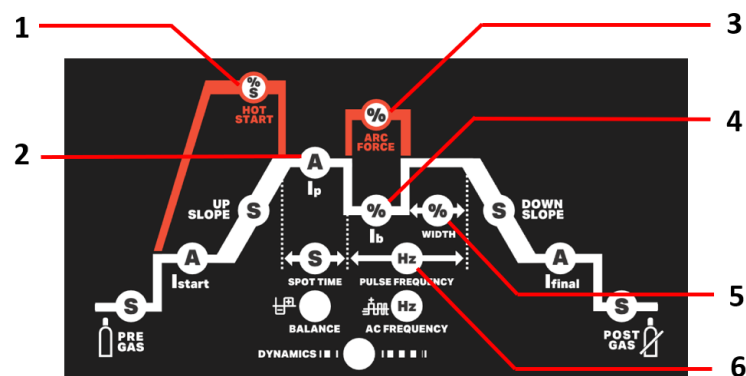

Fig. 2 – MMA parameters
For TIG 200 AC/DC (See items in Fig. 2)
- Adjust the current value to the diameter of the electrode (Fig.2 - 2), according to the following table, to adjust the machines according to the electrode to be used and start welding